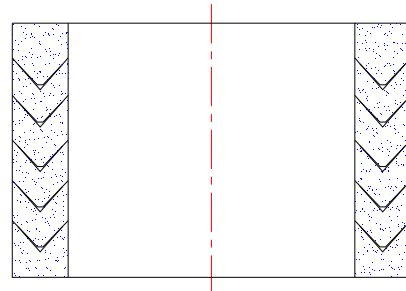

Fig.15
11.5.2 Inside of pipeline is vacuum : Please follow (Fig.15)